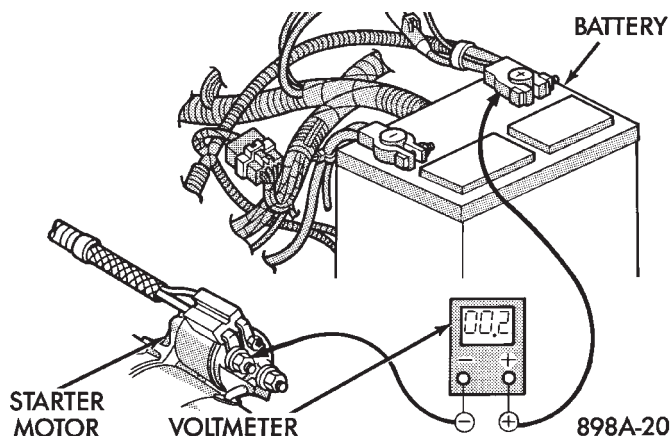

Fig. 12 Test Battery Positive Cable Resistance - Typical
(3) Connect the voltmeter to measure between the battery positive terminal post and the starter solenoid battery terminal stud (Fig. 12). Rotate and hold the ignition switch in the Start position. Observe the voltmeter. If the reading is above 0.2 volt, clean and tighten the battery cable connection at the solenoid. Repeat the test. If the reading is still above 0.2 volt, replace the faulty battery positive cable.